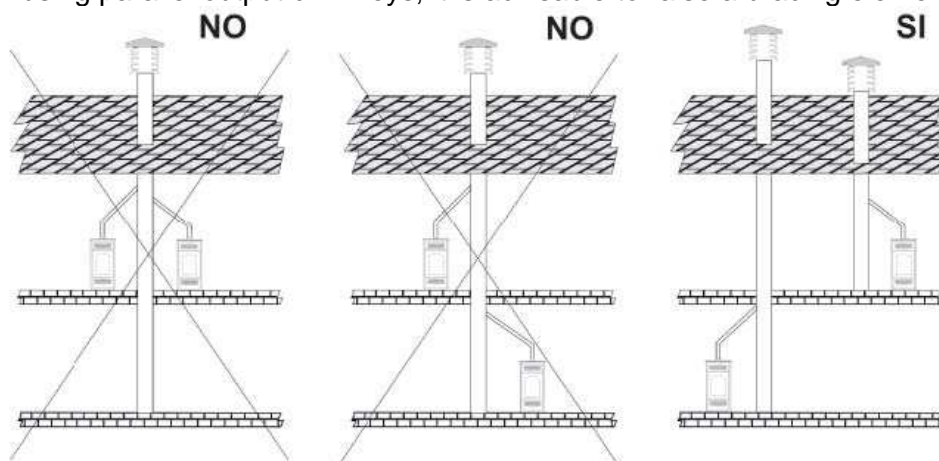

Fig 1
- It should not be connected to any other fireplace, stove, boiler, or hood of any kind (Fig. 1).